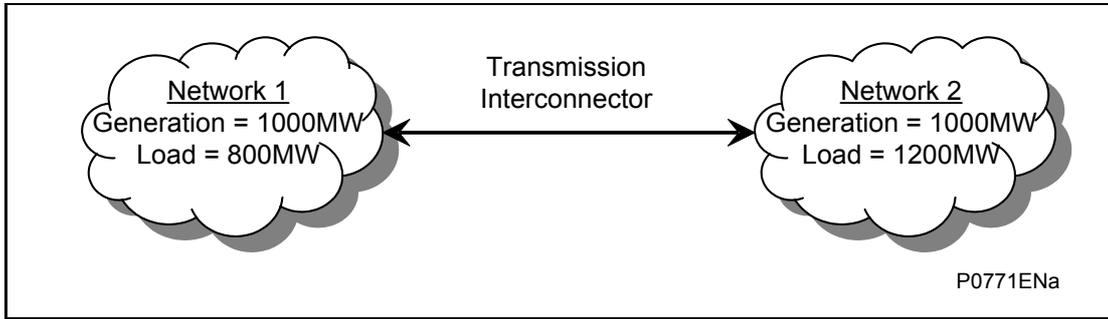

Figure 4: Simple interconnected system to highlight frequency behavior calculations
In the simple network of Figure 4, it can be easily seen that Network 2 has a generation deficit of 200MW which is normally supplied from Network 1 through the transmission interconnector. In the event of loss of this interconnection, and assuming that the system inertia constant (H) of Network 2 is equal to 4, we can calculate that the rate of change of frequency at the time of the overload using equation [1].